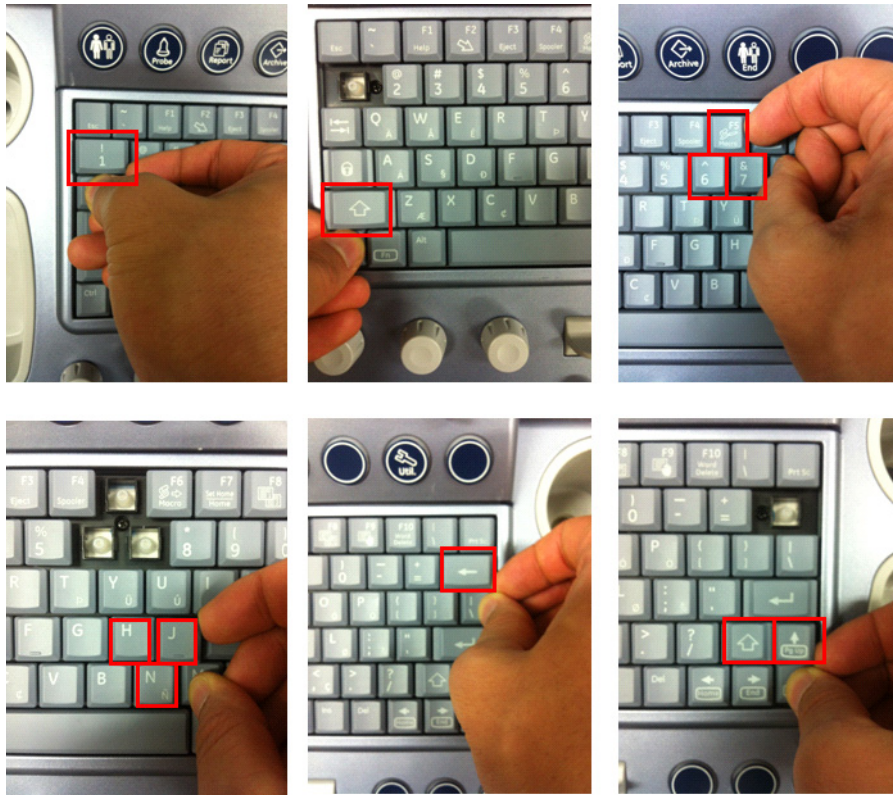

Figure 8-159 Remove key : '1', 'Left Shift', 'F5', '6', '7', 'H', 'J', 'N', 'Back space', 'Right Shift', 'Pg Up
- 1.) Remove '1' Key, 'Left Shift' Key, 'F5' Key, '6' Key, '7' Key, 'H' Key, 'J' Key, 'N' Key, 'Back space' Key, 'Right Shift' Key and 'Pg Up' Key by using fingertips. Refer to Figure 8-159 below.